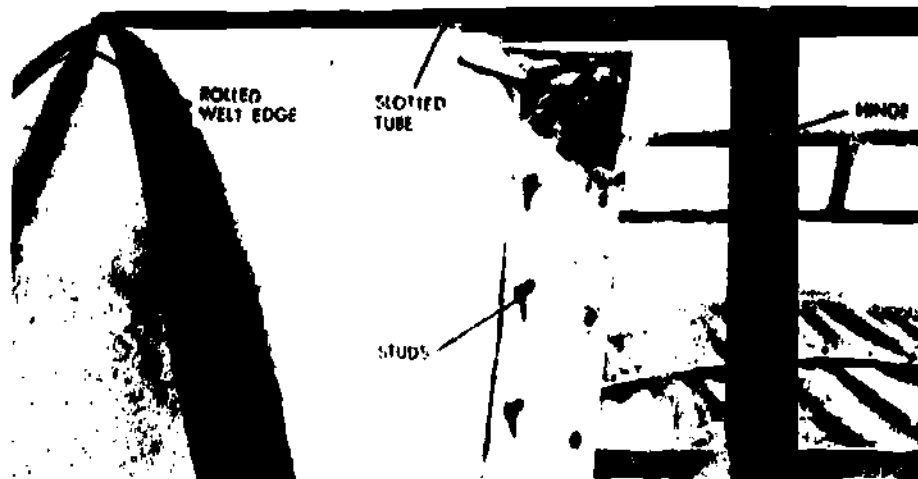

Fig 2-87. Sliding soft top beaded edge through channel.
- Cab tarps are held in by a channel (fig 2-87) located on the top section of the windshield frame. This area should be checked to insure that the canvas is locked in the channel. Also check all fasteners (fig 2-88) to insure that they are serviceable. If brace rods are used, they should be straight and you should make sure that retainers (cotter pins/safety pins) are installed. Some vehicles also use straps (fig 2-89) for canvas tiedowns on the sides or rear. Insure that the straps are not rotting or not coming unscrewed from the canvas. Make sure that the buckle on the strap stays tight when it is tightened. Check the plastic windows for cracks and discoloration.